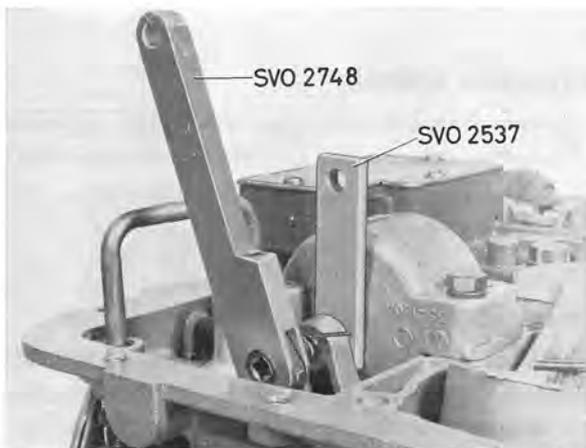

Fig. 4-119. Adjusting front brake band
25. Place the spacer bar 2537 between the bolt and cylinder, see Fig. 4-119. Tighten the bolt with torque wrench 2748 until the ratchet handle